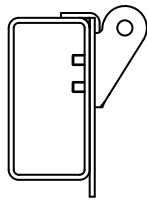

Figure 29
- 1) Figures 29 & 30.** Align bracket with marked bow location and place on top of rail.